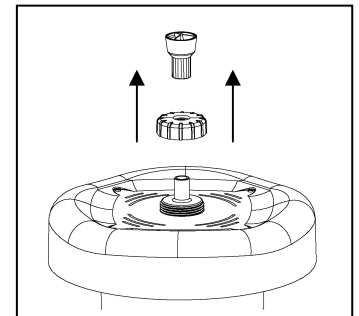

Fig. 6
3. Remove the fountain head and the top locking nut. Then remove the top cover. Fig. 6